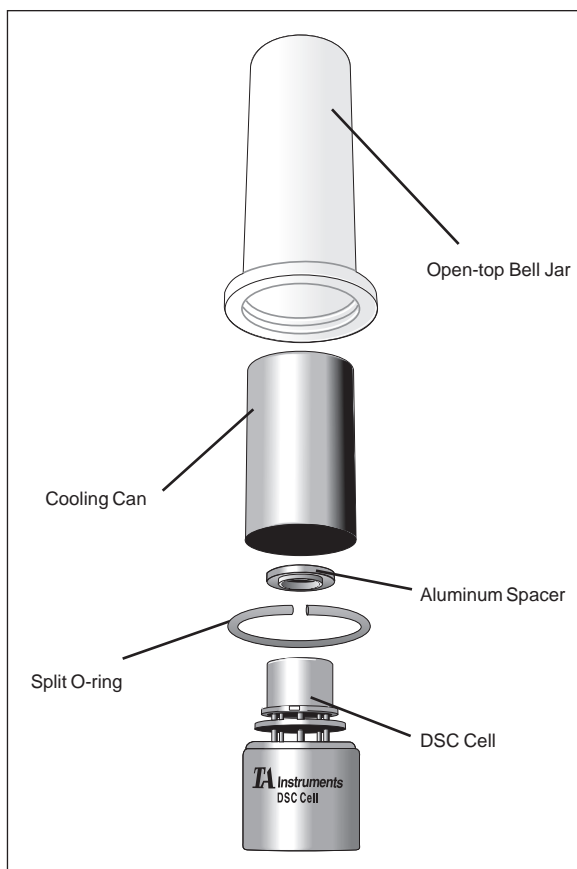

Figure 2.13
3. Place the aluminum spacer on top of the cell as shown in Figure 2.13.